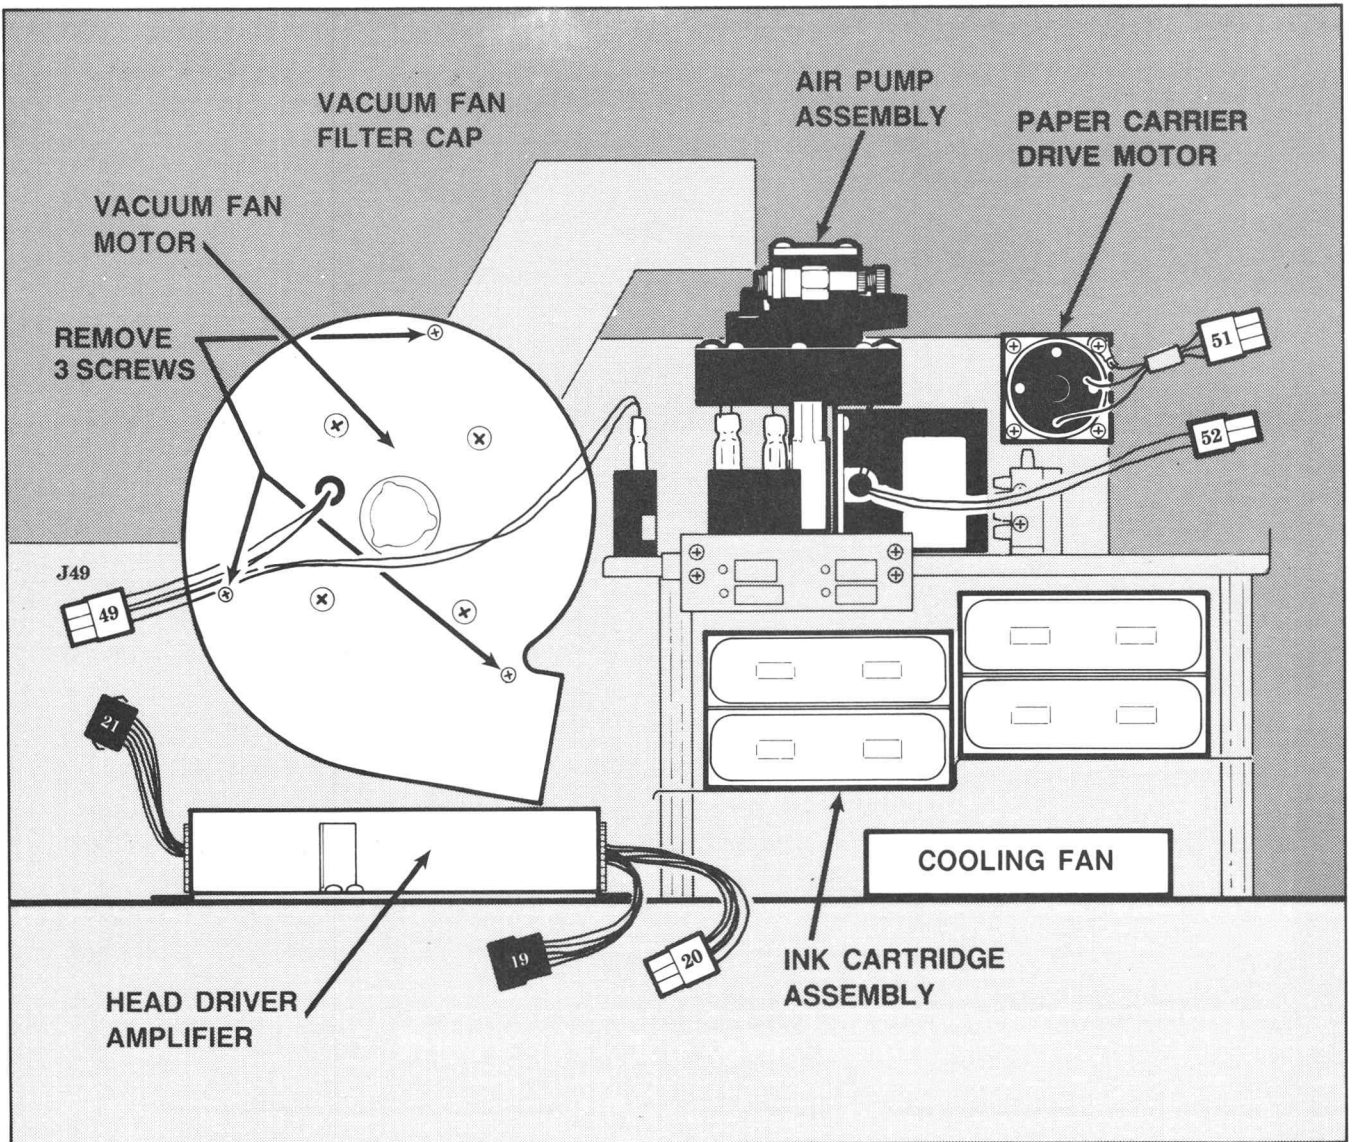

Figure 7-3. Vacuum Fan and Motor Removal.
3. Disconnect the motor cable (J49). See Figure 7-3.